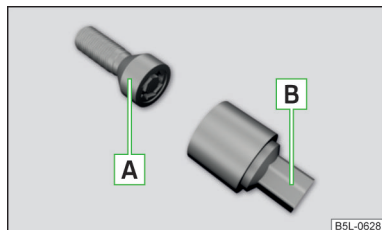

Fig. 152
The anti-theft wheel bolts protect the wheels from theft. This can only be » Fig. 152 loosened / tightened with attachment **B**.
- › Insert the wheel wrench onto the wheel bolt to the stop. Use the associated attachment for the anti-theft wheel bolts » Fig. 152 on page 126.